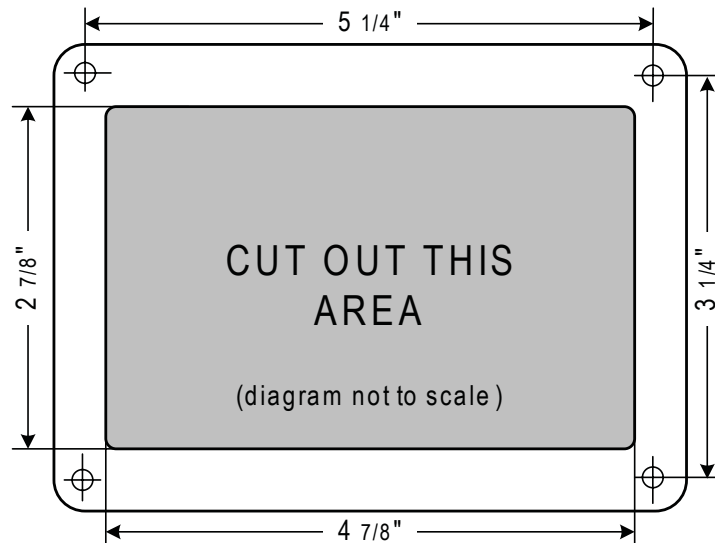

Figure 2-1, Remote Cutout Dimensions
2. Refer to Figure 2-1 for hole and cutout dimensions.